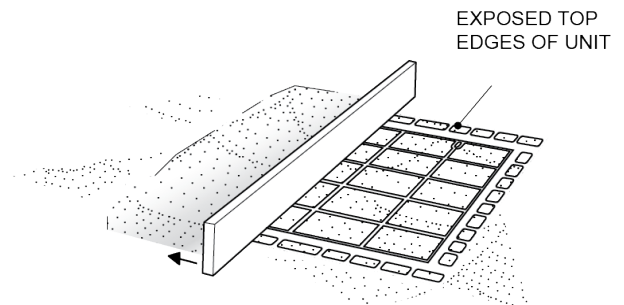

Figure 7
- Trowel or screed off excess concrete to expose all top frame and cover edges. Do not remove covers for 74 hours. (Figure 7)